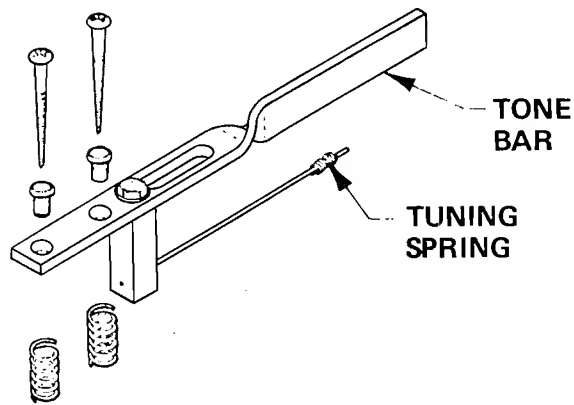

Figure 7-3. RHODES Third Stage Tone Bar Assembly
3. In an attempt to further improve the tone quality and at the same time to reduce weight, we came up with the current Tone Bar design, which we call the “twisted steel bar” (patent No. 3,644,656) (Figure 7-3).